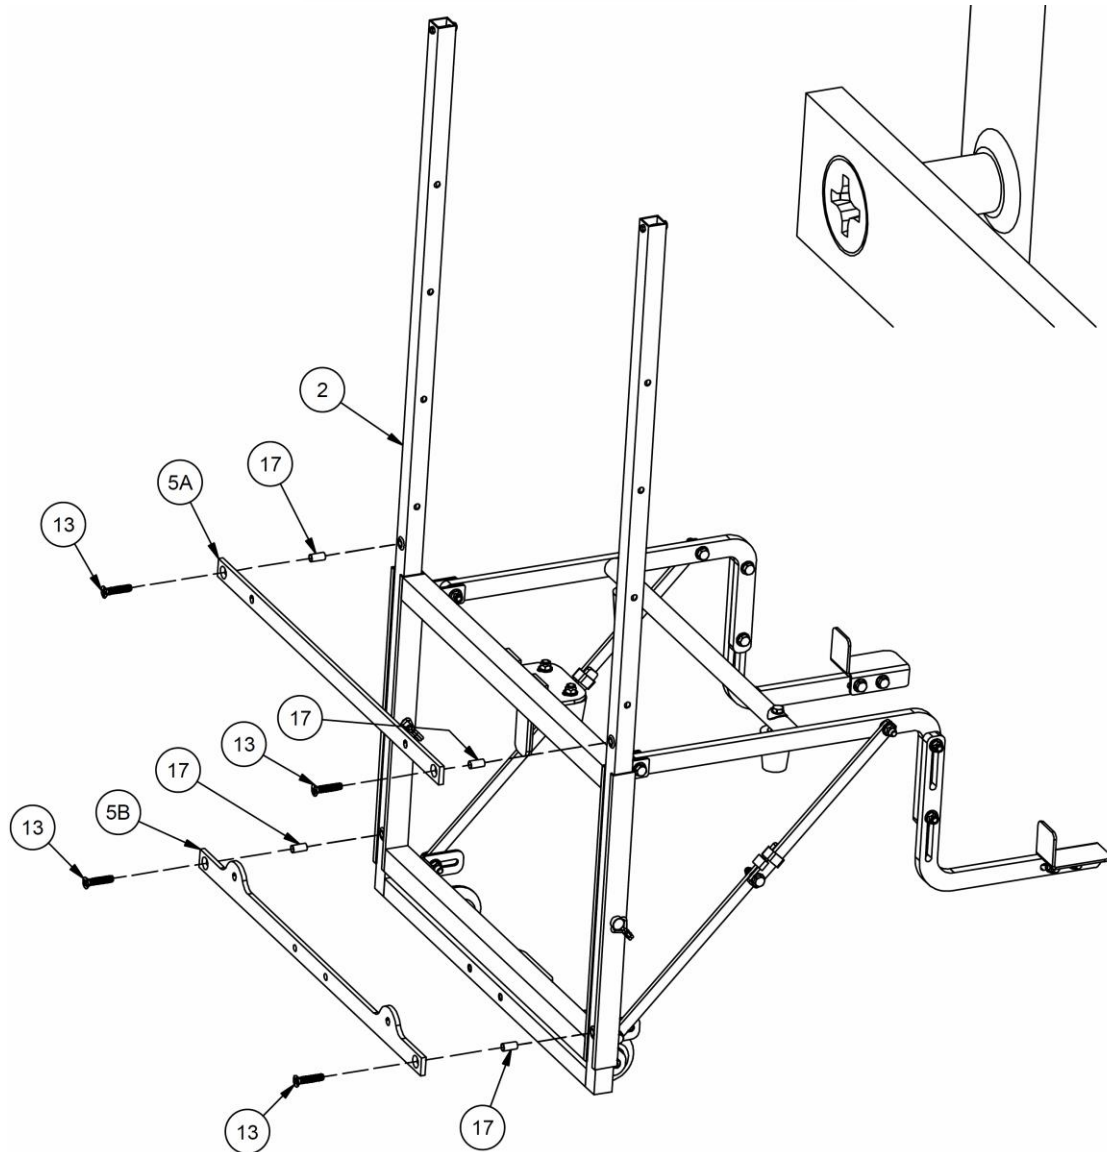

Figure 5 (*Attach frame boardmounts*)
- 7) Install the backboard mounting brackets onto the front frame (see Figure 5).